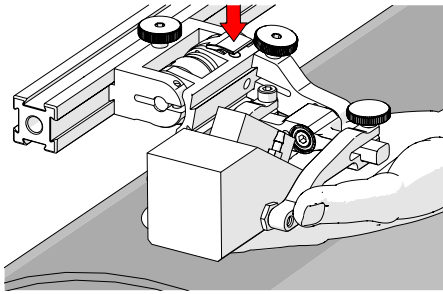

Fig. 96 - Lift and press latch button
3. Lift the probe slightly and press the latch button (Fig. 96) to apply spring pressure to the wedge.